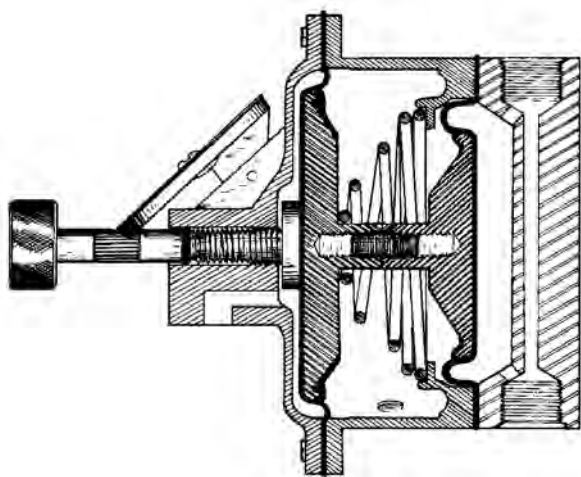

Figure 3
- Refer to Figure 3, Page 6, for the following steps.
- You may have to use a thin blade screwdriver several places to free the diaphragm (1) from the head and cylinder.
- Before installing the new diaphragm, coat the threads of the threaded stud (5) with an anti-seize lubricant to prevent sticking
- Screw in the new diaphragm until it just touches the water side diaphragm. If the holes in the diaphragm do not line up with the holes in the cylinder (6), unscrew the diaphragm until they line up.